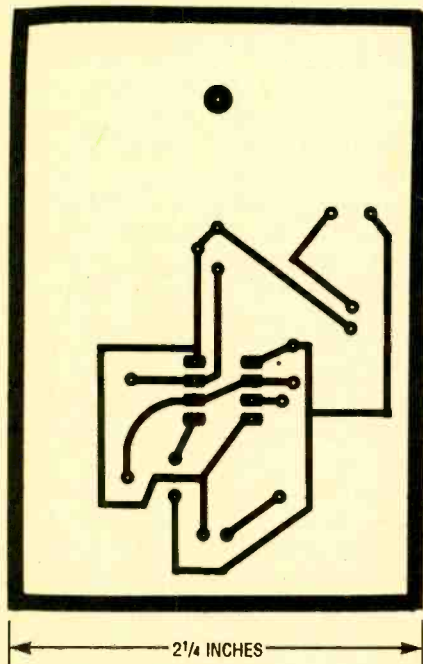
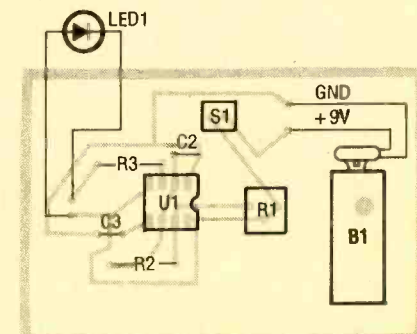

Fig. 3. If you chose to build the project on printed-circuit boards, use this pattern for the transmitter board.
Fig. 5. Here's the placement guide for the IR-transmitter board.
**Building the Project.** Figures 3–6 show the PC patterns and parts placement for the project's transmitter and sound-effects boards. The project may be built entirely on the printed-circuit boards as shown, or you may build the
To use the printed-circuit-board method, etch and drill the boards using the layouts shown in Figs. 3 and 5. Each board includes a hole for mounting a battery holder. Also drill holes for mounting screws or standoffs for each board (or you may instead use press-on rubber feet to elevate the boards slightly).
On the transmitter board (Figs. 3 and 4), mount a battery holder for B1 and solder the battery-clip leads to the appropriate holes. When MOD1's epoxy has dried, do the same on the receiver/sound-effects board (Figs. 5 and 6). Solder SPKR1 to the appropriate holes in the sound-effects board using short lengths of hook-up wire with 1/4-inch of insulation stripped from each end. Use any convenient method to label S1, S2, R5, R8-R10, and R12.
**Electronic Construction.** While the circuit is simple enough to allow the use of the less polished electrical construction techniques (perfboard or wire-wrap), a printed-circuit foil pattern is shown in Fig. 2. Once you've etched your board and obtained the parts listed in the Parts List, refer to Fig. 3 for proper placement and orientation of the components. Be sure to use a heat sink for Q1. Since less than half an amp will move through Q1 (which is rated for a maximum current of 15 amperes), a